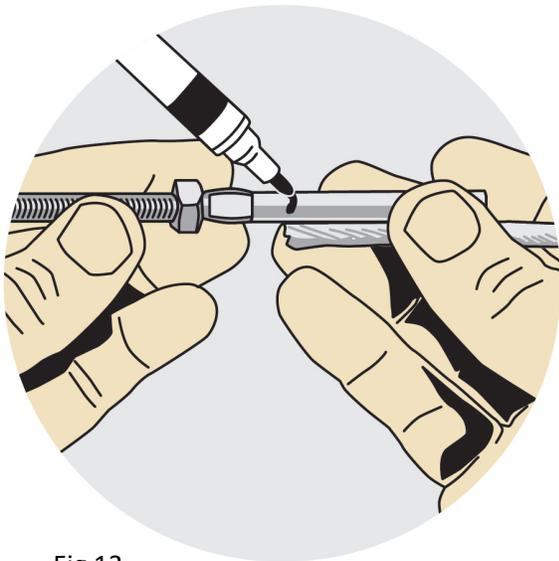
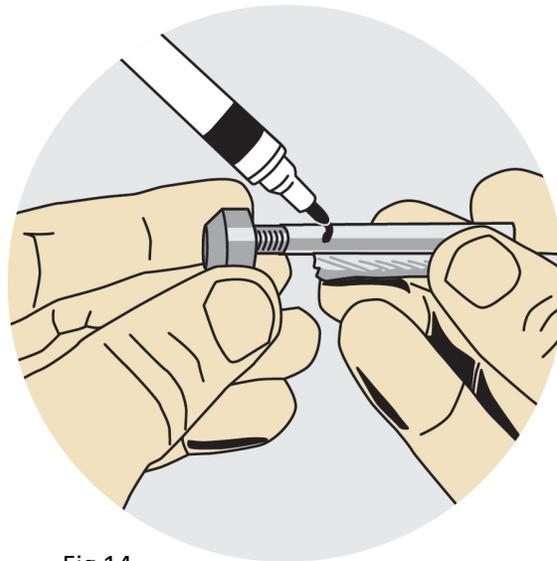

Fig 13
Fig 14
- a) Insert a piece of cable into the receiver end of the Classic Ball Turnbuckle (Fig. 13) or Swage Button End (Fig. 14) and mark on the fitting that indicates how far the cable penetrates.